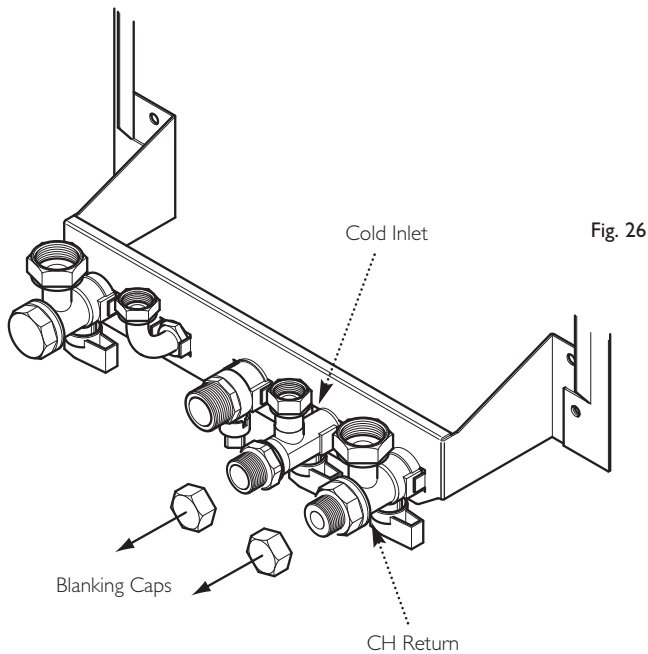

Fig. 26
5. Remove the blanking caps from the mains cold water inlet and central heating return isolation taps (Fig. 26). Connect the valves to the taps, ensuring that the fibre washers supplied are used on these joints.